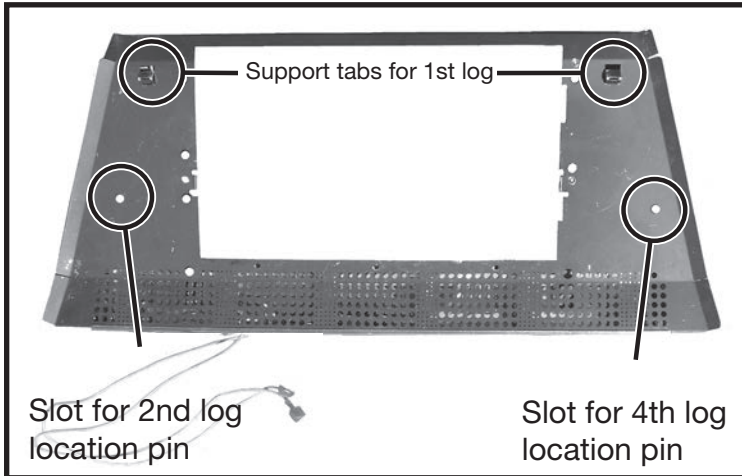

Figure 59: LED equipped burner tray.
1. With the fiber or porcelain interior panels installed, orient the burner tray so that its wire leads are facing the front of the fireplace (Figure 59).